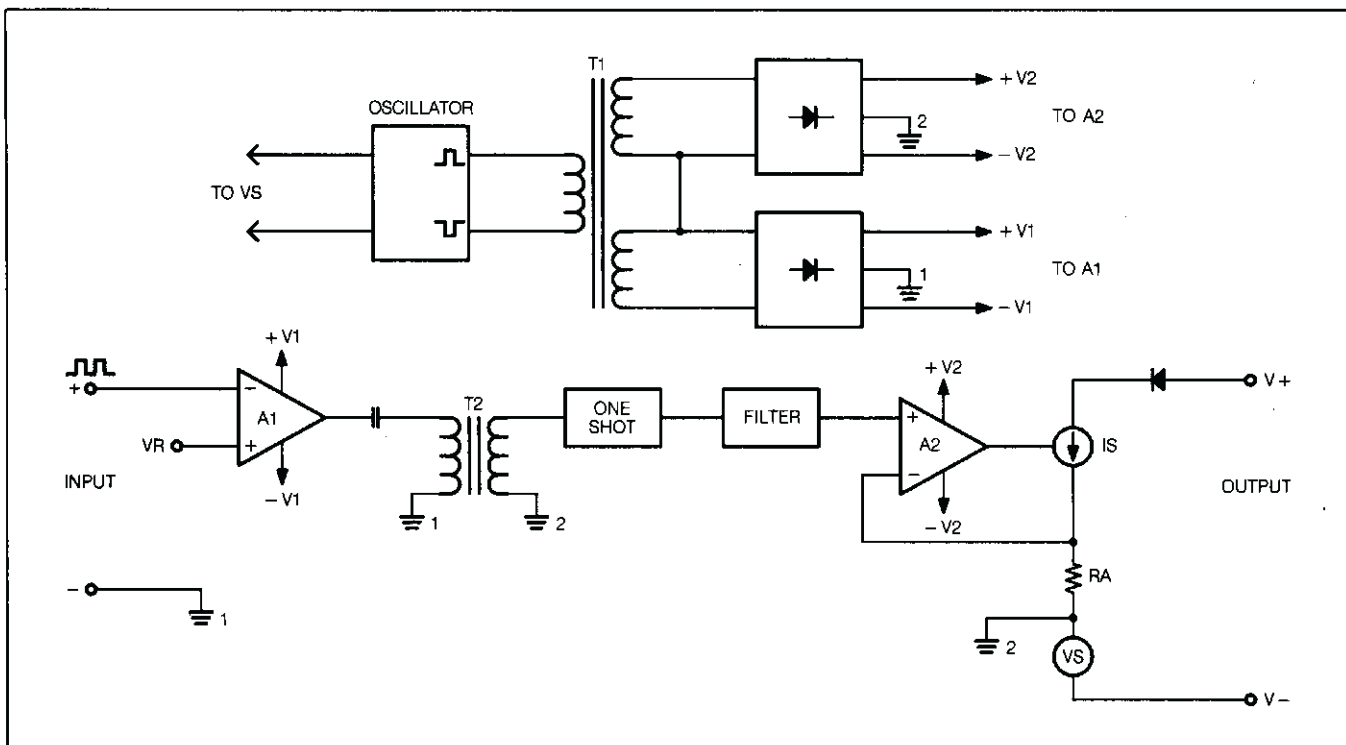

Figure 1: Simplified Block Diagram
3.1 General Circuit Operation (See Figure 1)